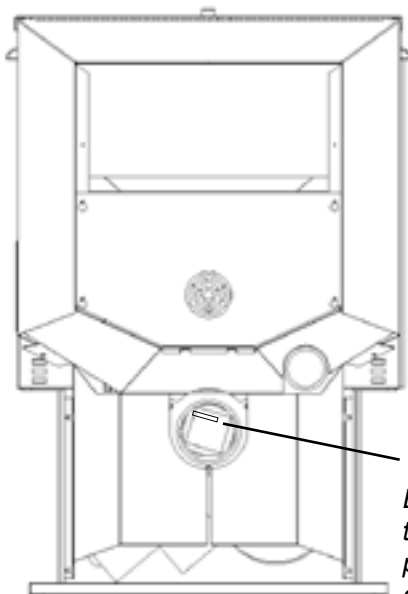

Fig. 29
5. Use a brush (Fig.30) to clean the flue, being careful not to damage the ESP probe. The flue goes straight through into the vent pipe (Fig.29) therefore, the vent pipe can also be cleaned, to some extent, through the flue outlet.